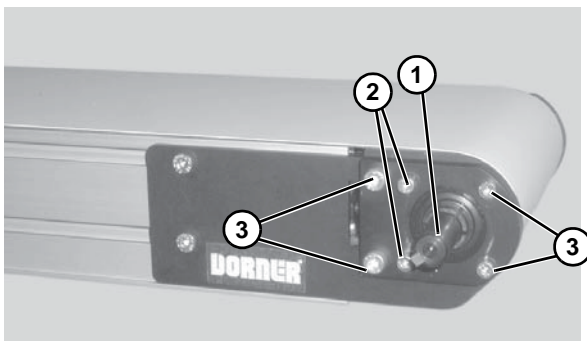

Figure 8
3. Locate drive output shaft (**Figure 8, item 1**). Remove two (2) M8 screws (**Figure 8, item 2**) and four (4) M6 screws (**Figure 8, item 3**) and discard.